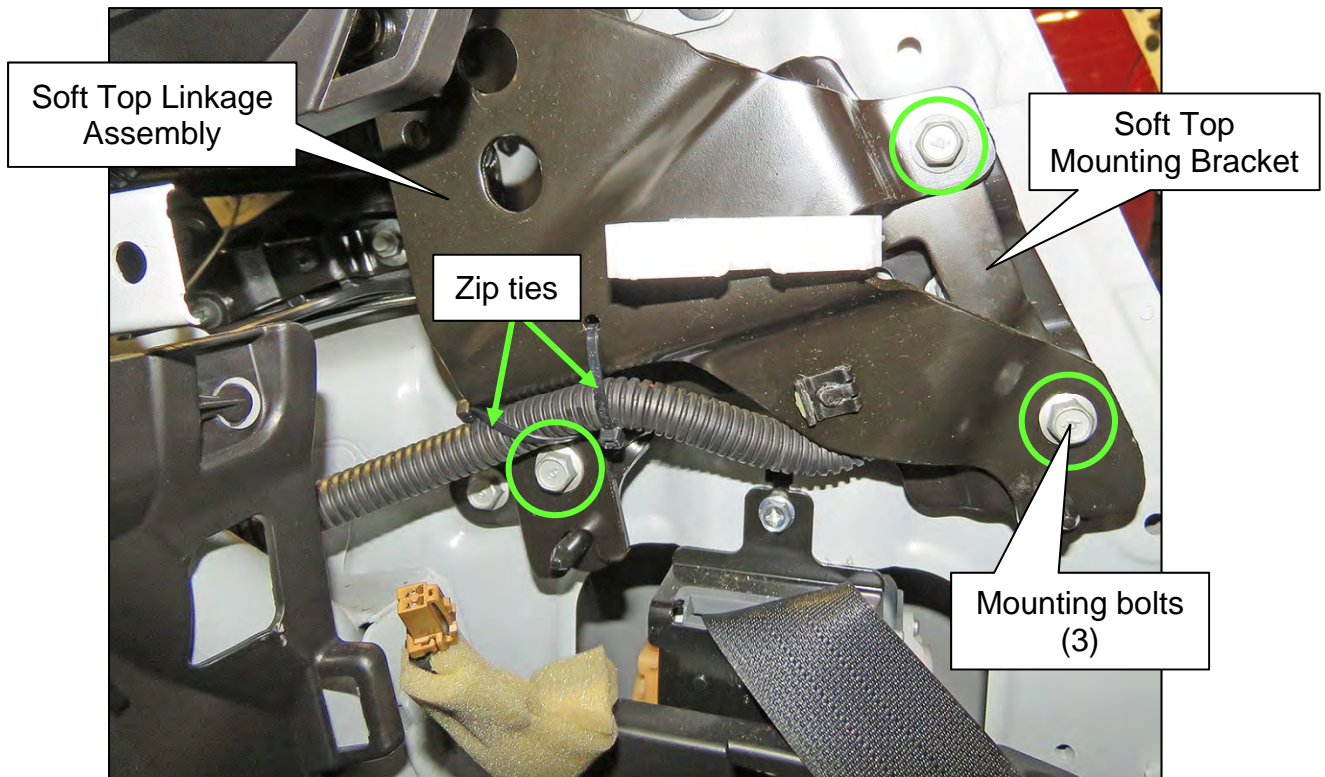

Figure 158
168. Remove the two (2) zip ties, shown in Figure 158, from both the driver and passenger side Soft Top Linkage Assemblies.
169. Remove the three (3) mounting bolts, shown in Figure 158, that attach the Soft Top Linkage Assembly to the Soft Top Mounting Bracket from both the driver and passenger sides.